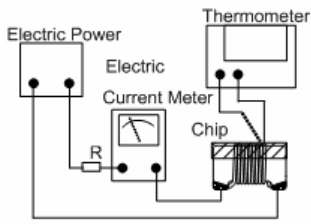

Fig. 6.3.5-1
d. Definition of Heat Rating Current (Irms): Irms is direct electric current as chip surface temperature rose just 40°C against chip initial surface temperature (Ta) (see Fig. 6.3.5-2).